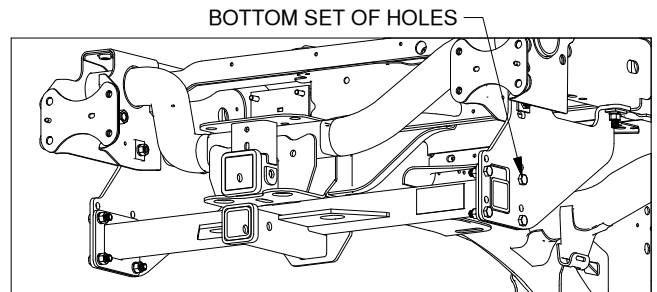

Figure A1: View of truck with factory receiver hitch. (Bumper not shown)
- For pickups with a factory receiver hitch, the center section should be bolted to the side plates in the bottom set of holes and oriented so the receiver tube is under the cross tube, see Figure A1.